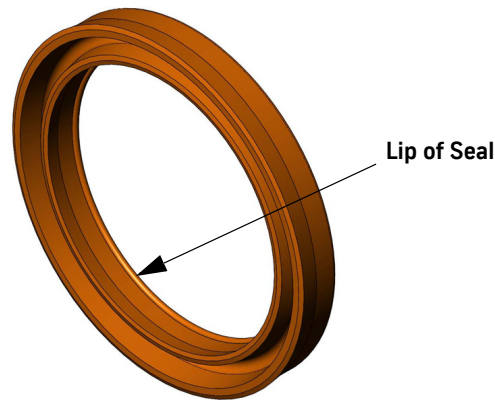

Figure 28 - Seal Orientation
2. Place the seal on top of the plunger. Make sure the lip of the seal faces down toward the pressure side. See Figure 28.